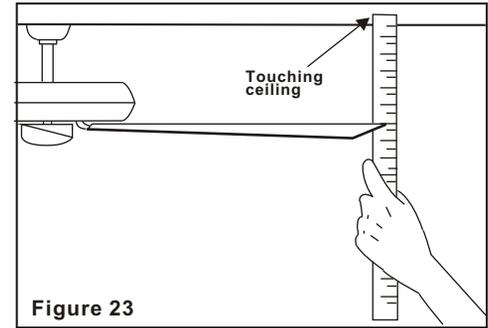

Figure 23
2. Most fan wobbling problems are caused when blade levels are unequal. Check this level by selecting a point on the ceiling above the tip of one of the blades. Measure this distance.(Fig. 23) Rotate the fan until the next blade is positioned for measurement. Repeat for each blade. The distance deviation should be equal within 1/8".